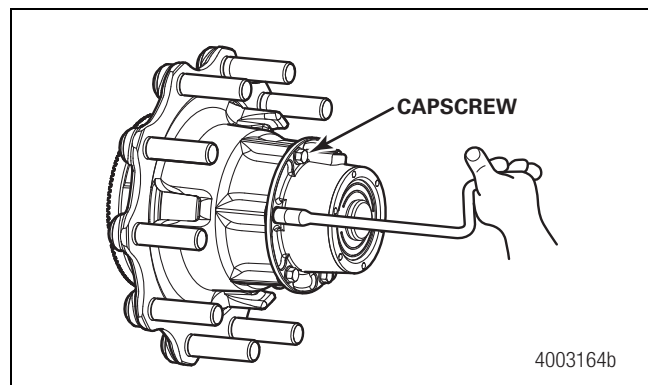

Figure 3.6
9. Place a container under the hubcap to receive the draining oil, then remove the hubcap and hubcap gasket. Figure 3.6.